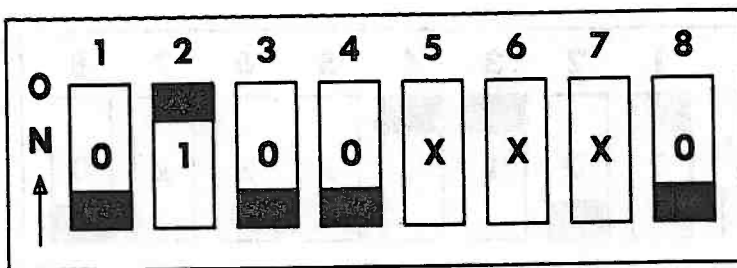

Figure 3-8. DIPSW-0 Setting for 640-KB Total Memory on Motherboard Using 256-K Bit Chips in Bank 1
14. On DIPSW-0, set switches 1, 2, 3, and 4 for 640-KB total memory adding 256-K bit chips (Figure 3-8).